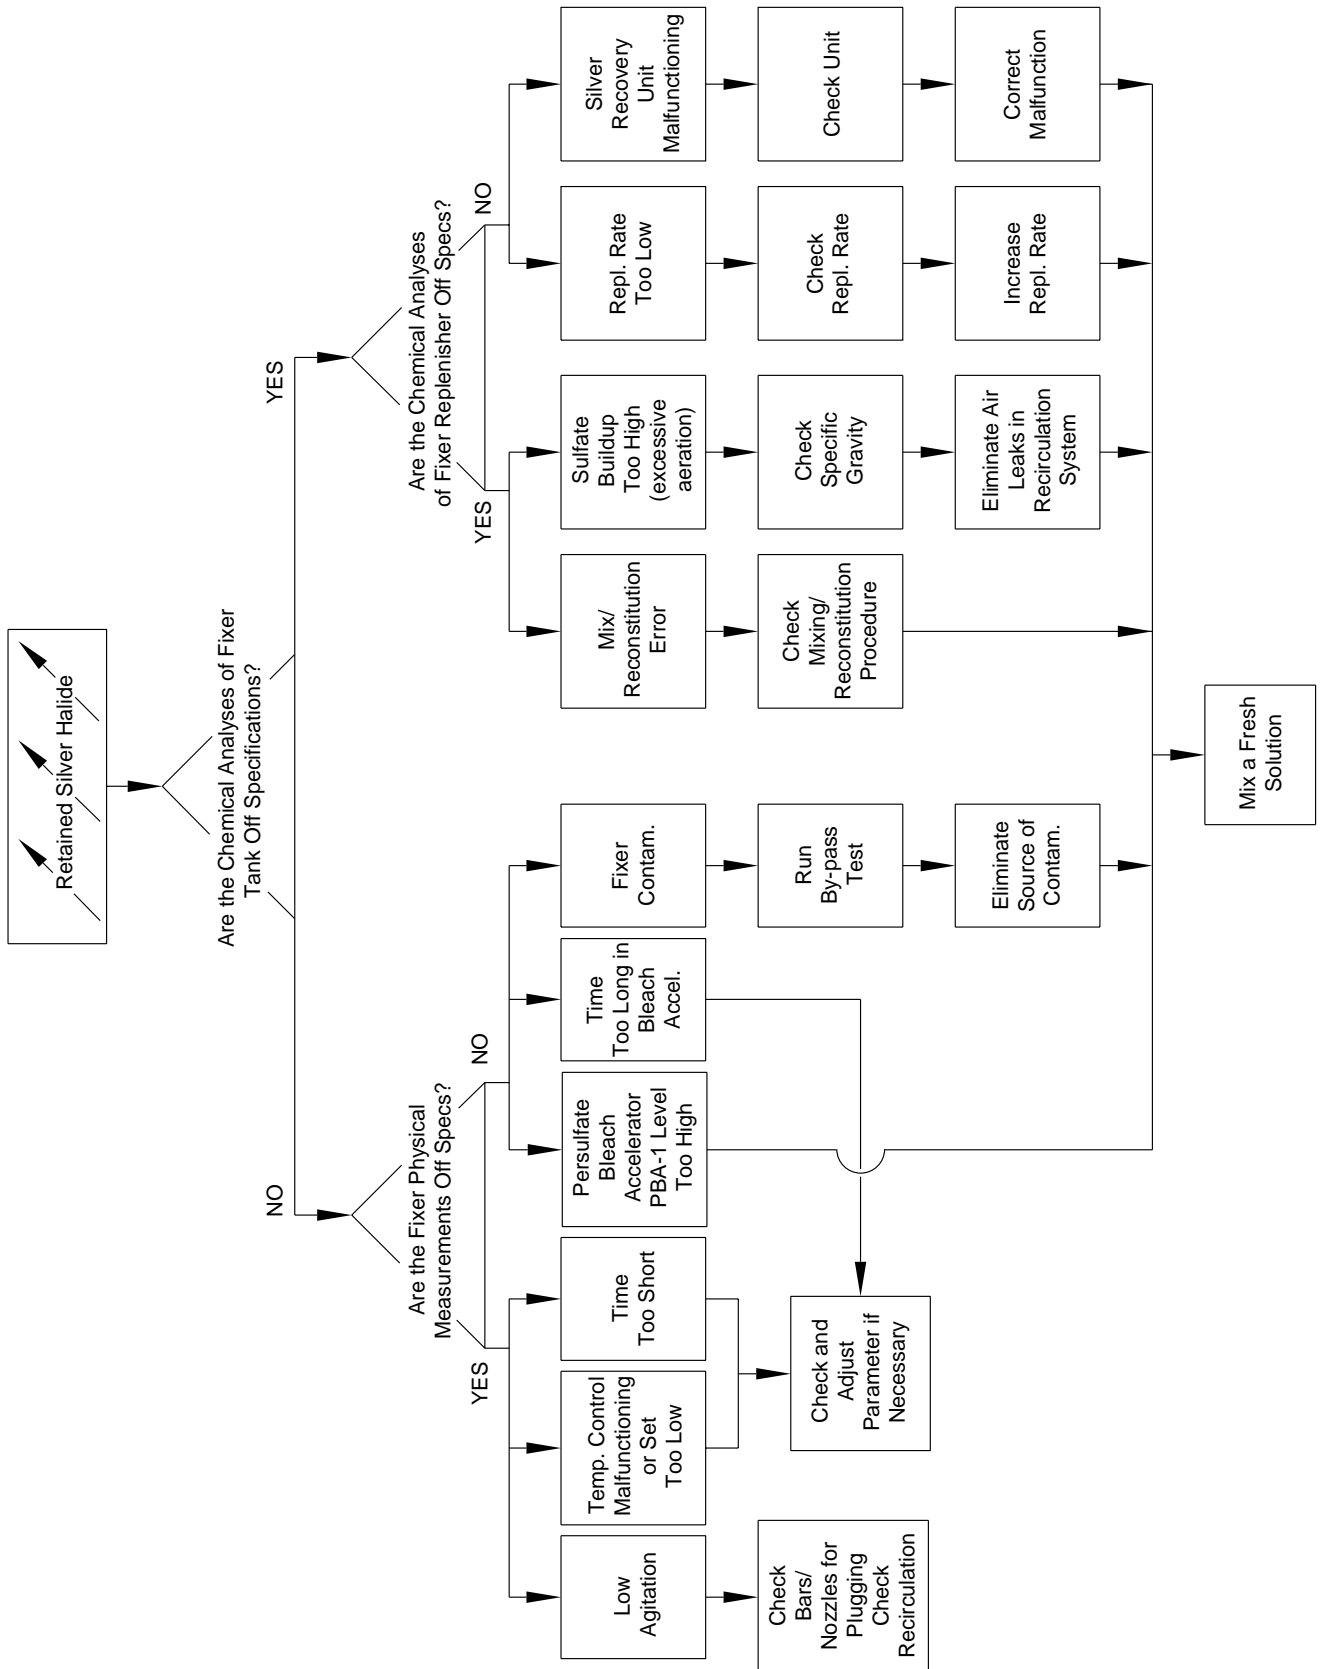

Figure 10-19 Retained Silver (Persulfate Bleach)
- *Retained Silver (Persulfate Bleach)*, Figure 10-19